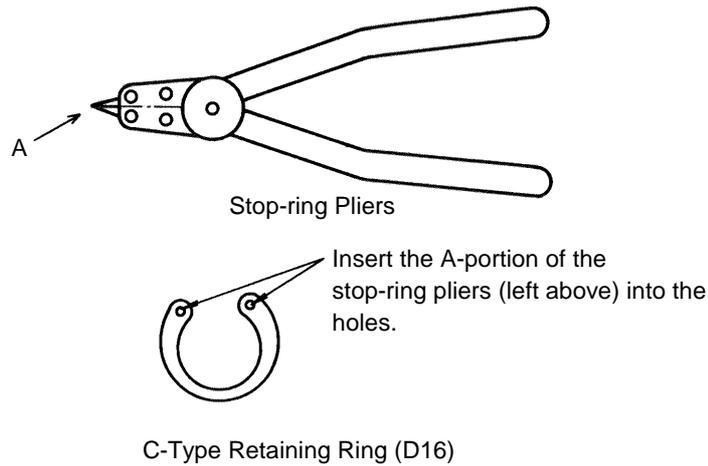

Fig. 4
Remove the C-Type Retaining Ring (38) with stop-ring pliers. (See Fig. 4) Then, remove the Lock Pin (36), Ring (35), Spring (34), Bush (33), and Felt Packing (C) (32) from the Gear Cover (30).